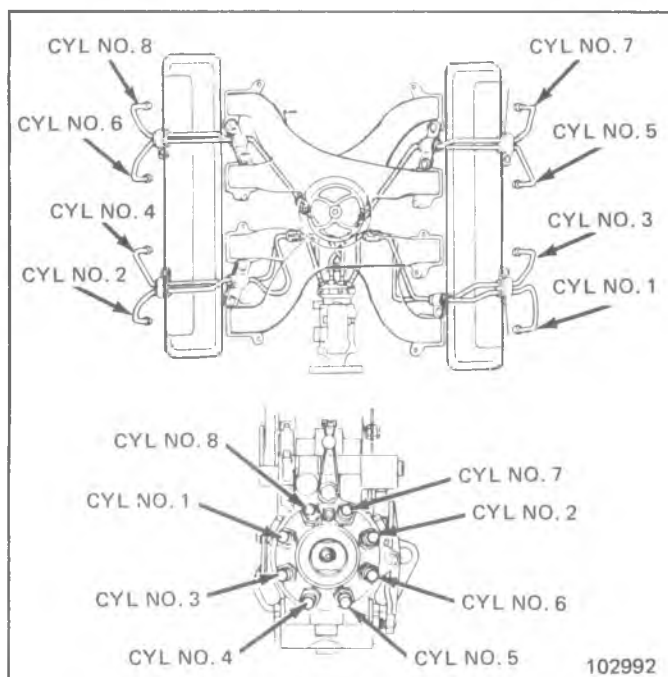

Fig. 6C6-7--Fuel Line Routing
2. Align locating pin on pump hub with slot in injection pump gear (Figure 6C6-9 and 6C6-11). At the same time, align timing marks.